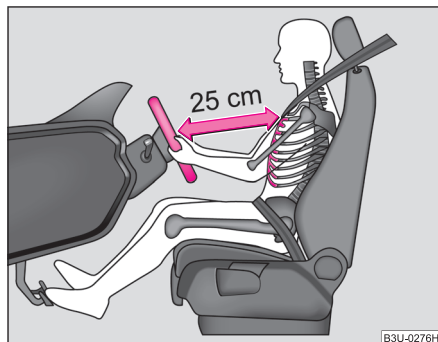

Fig. 104 The correct distance of the driver from the steering wheel
- Adjust the steering wheel so that the distance between the steering wheel and your chest is at least 25 cm ⇒ fig. 104.
- The driver must maintain a distance of at least 25 cm to the steering wheel ⇒ page 135, fig. 104. Not maintaining this minimum distance will mean that the airbag system will not be able to properly protect you – hazard!